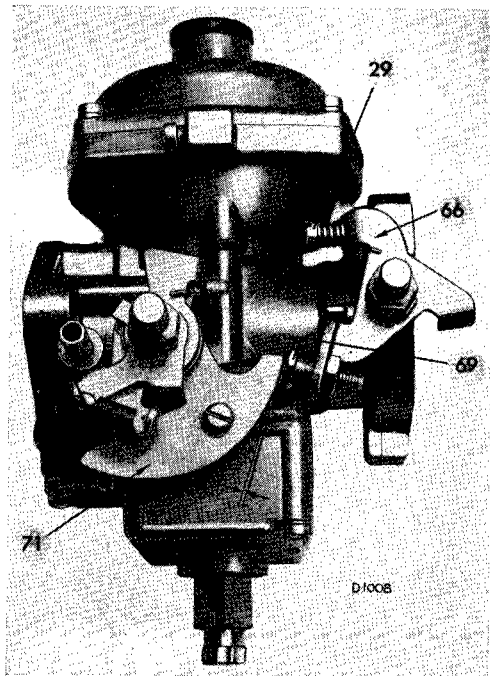

Fig. 48
Ensure that screw (69) is adjusted to give a gap of $\frac{1}{16}$ " (1.575 mm.) as shown arrowed Fig. 48.